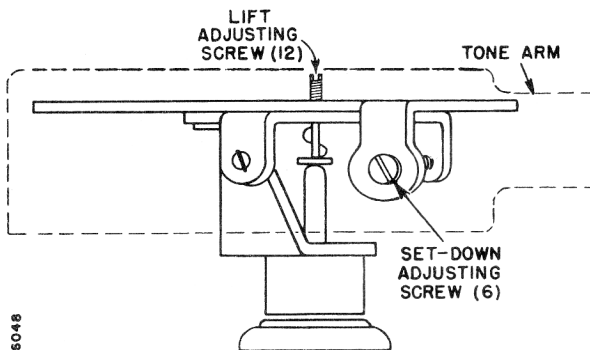

Figure 2. Set-Down and Lift Adjustments.
Be sure the record changer is level. The tone arm lift adjustment may be made while the changer is in its compartment or cabinet. The tone arm lift adjusting screw (12) is accessible through a hole on the top of the tone arm at the tone arm base. See figure 2. If the tone arm lift is too great, that is, the tone arm touches the record at the bottom of the stack of 12 standard 10", 78 RPM records on the turntable, turn the lift adjusting screw clockwise.